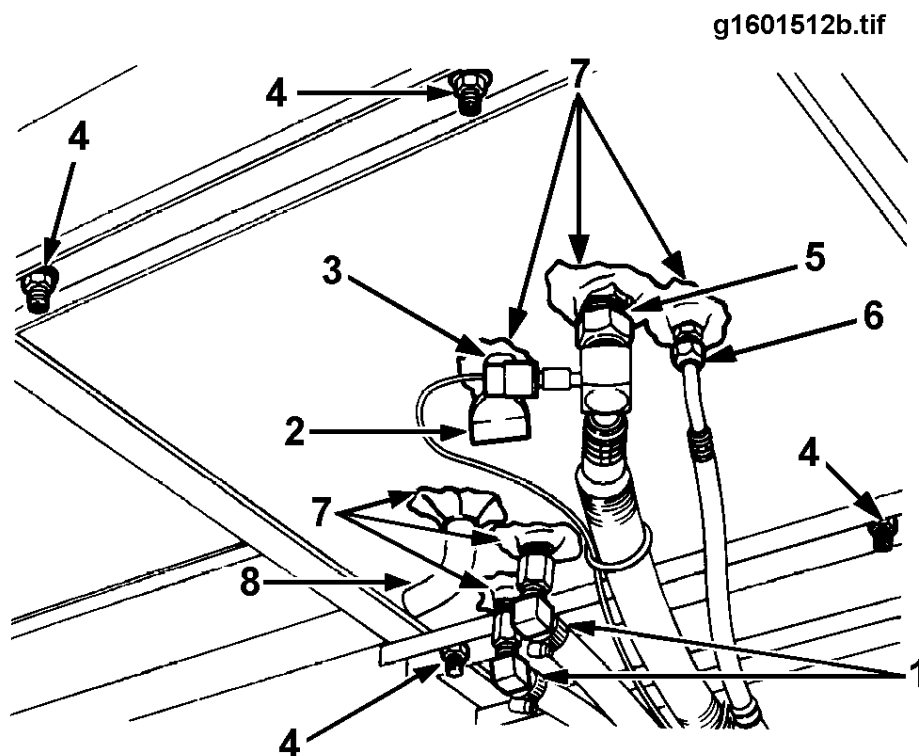

Figure 14 A/C Heater Unit Connections Under Cab Floor
1. Turn off engine coolant supply to the heater with the heater hose gate valves in the engine compartment, or clamp off the heater inlet and outlet hoses (Figure 14) with C-clamps and wood blocks. Be sure not to damage the hoses.
1. Note how the heater hoses are connected to the heater core, and label the hoses for proper reconnection later. Remove the heater hoses from the heater core inlet and outlet tubes (Figure 14).
2. Disconnect the evaporator hoses and fittings (Figure 14). Cap or plug all hoses and fittings.
3. Remove the moisture drain nipple and evaporator drain tube, if so equipped, under the cab (Figure 14).
5. Remove the unit mounting stud nuts and washers (Figure 14).
1. Install washers and nuts on the mounting studs (Figure 14). Tighten mounting nuts to 22 to 28 lbf-ft (30 to 38 Nm).
5. Apply sealant around the Blend-Air unit housing connections where they exit the cab floor (Figure 14).
2. Note how the heater hoses are connected to the heater core (Figure 14), and label the hoses for proper reconnection later. Disconnect the heater hoses from the inlet and outlet fittings under the cab.
11. Wrap the fittings with insulating tape (or use sealant) to seal the floor openings (Figure 14).